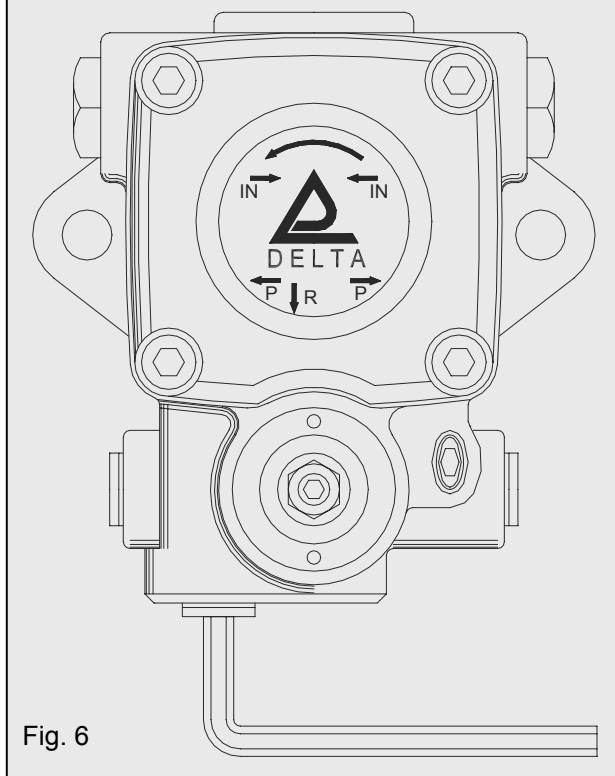

Fig. 6
- 2) Insert and screw a 1/4" plug into the return port (Fig. 6).
- a) Remove the 1/4" plug from the return port (Fig. 6).